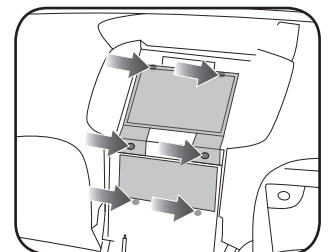

Fig. 1.8
8. Remove the four 7mm screws securing the radio display. Disconnect the wiring harness and remove the display. Remove the two 7mm screws at the bottom of the CD player. Disconnect the wire harnesses and antenna connections. Remove the CD player. (Fig. 1.8)